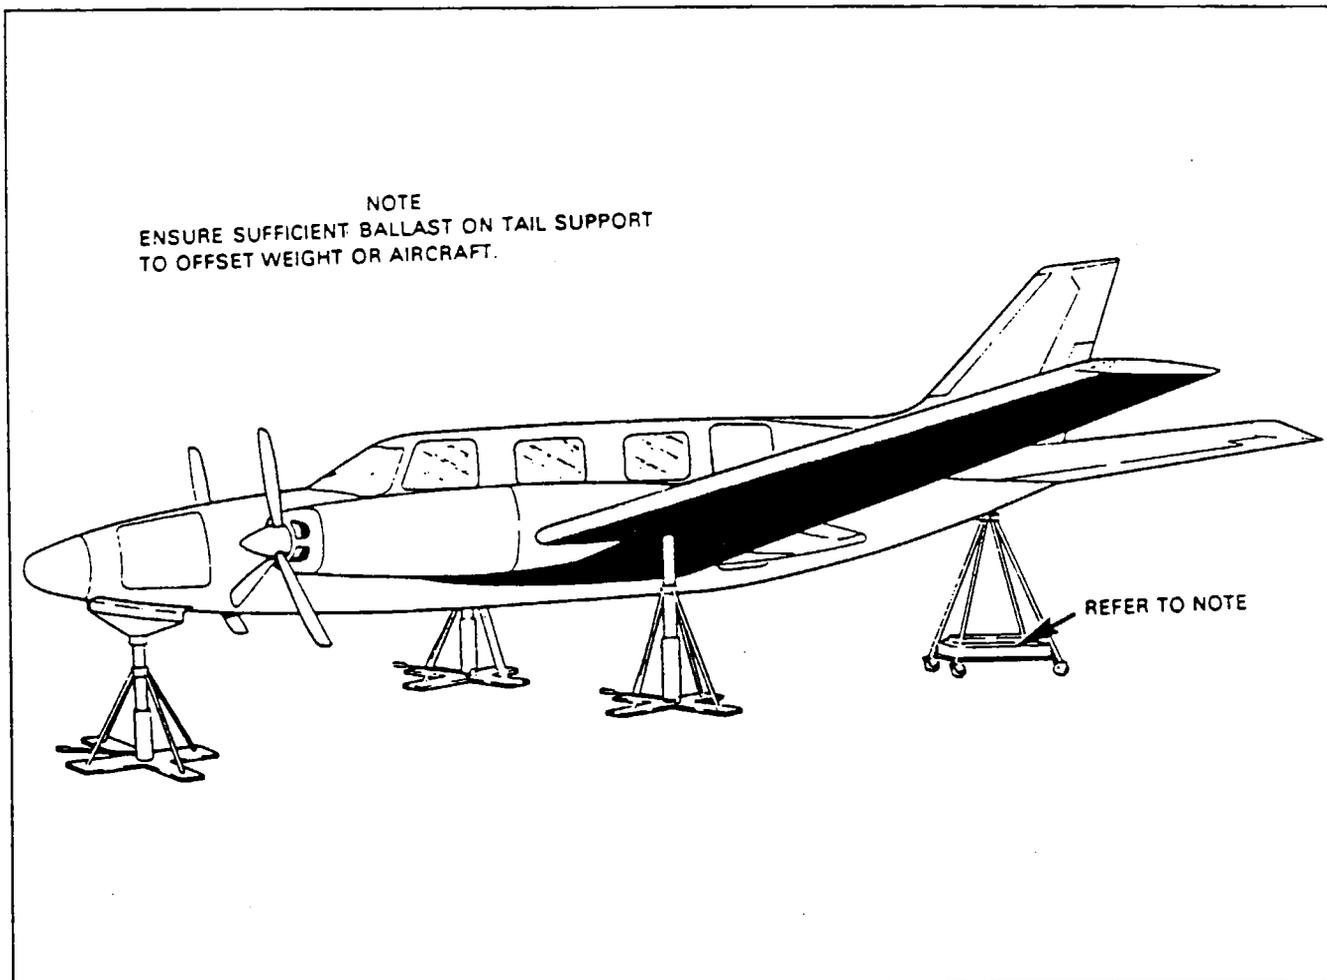

Figure 7-1. Jacking Arrangement
**JACKING-** ( Refer to Figure 7-1).